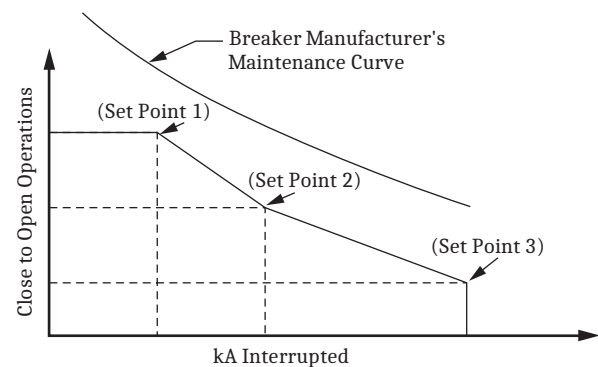

Figure 24 Breaker Contact Wear Curve and Settings
- Every time the breaker trips, the relay integrates interrupted current. When the result of this integration exceeds the threshold set by the breaker wear curve (*Figure 24*), the relay can alarm via an output contact or the optional front-panel display. With this information, you can schedule breaker maintenance in a timely, economical fashion.